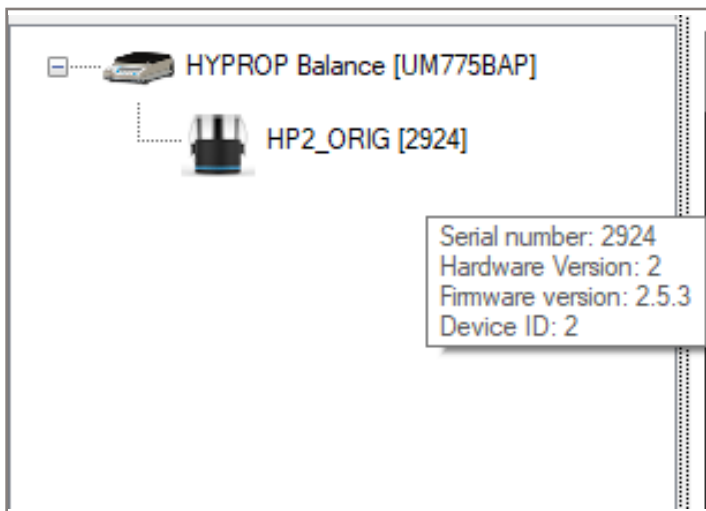

Figure 77 Check device ID
2. Check the device ID by putting the cursor over the sensor unit shown in the device tree on the left in the software screen (Figure 77).